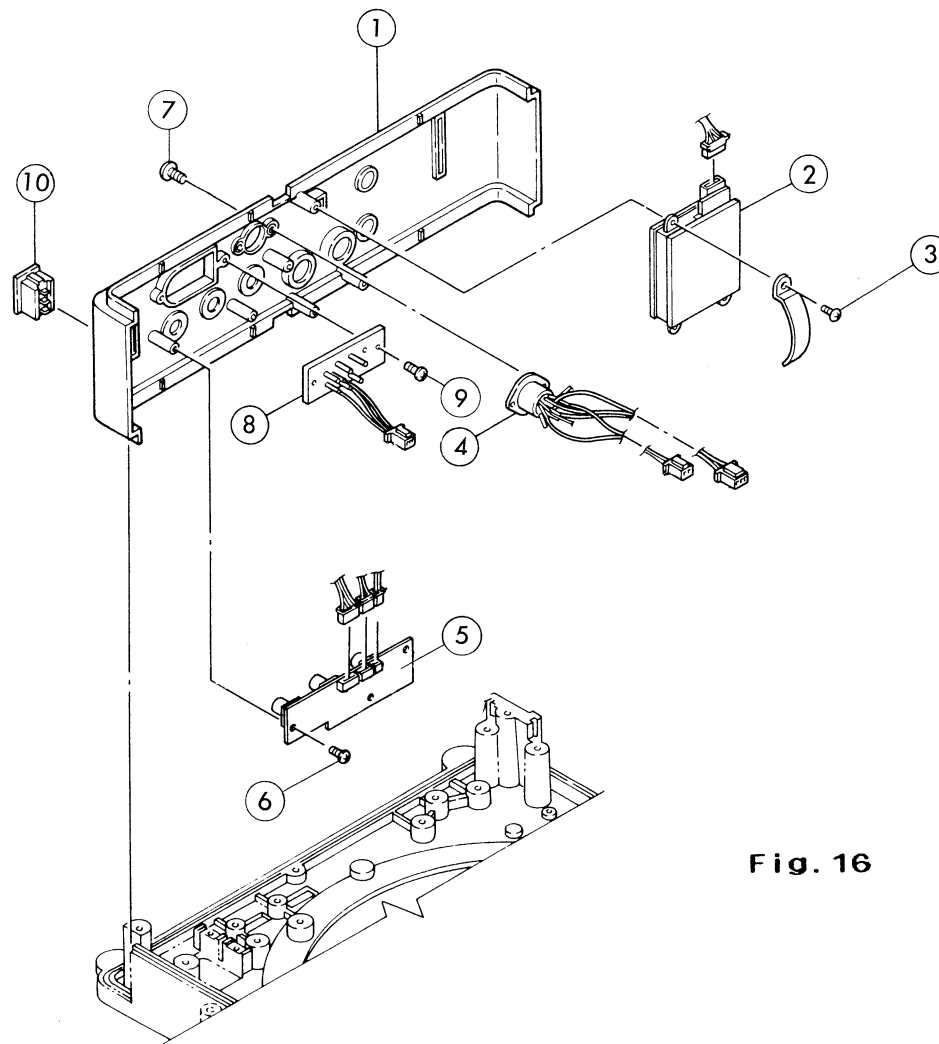

Fig. 16
IV — 11 Rear Panel Section (See Fig. 16)
2. Unscrew ③ × 3 pcs. to remove ②.
3. Unscrew ⑥ × 3 pcs. to remove ⑤.
4. See Fig. 16 for further disassembly.